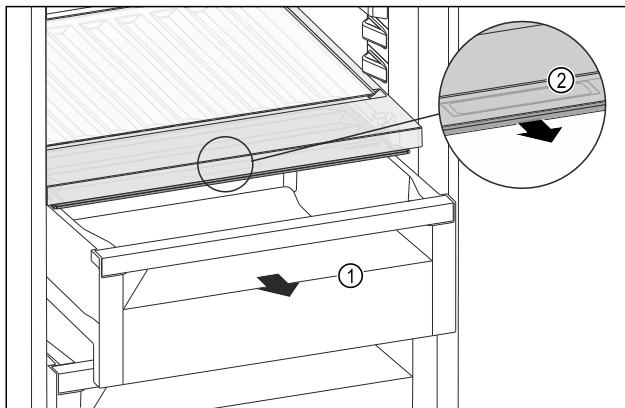

Fig. 171
- Pull out the drawer Fig. 171 (1).
- Grasp the recessed grip Fig. 171 (2) on the compartment lid and pull the compartment lid forwards at the same time.